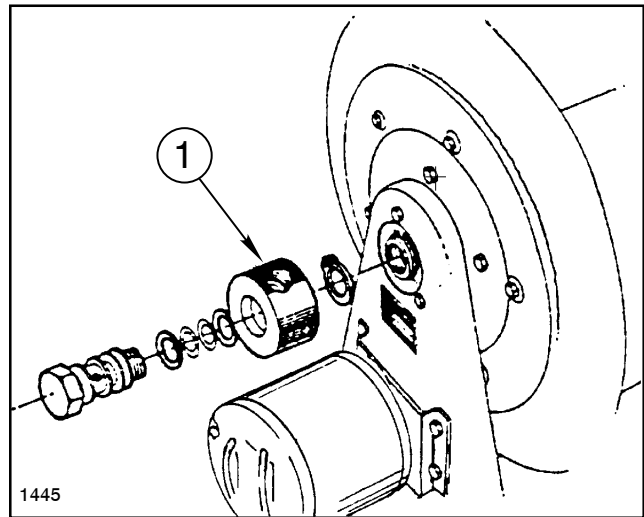

FIG. 4
2. Remove swivel assembly from inlet shaft. See FIG. 4.